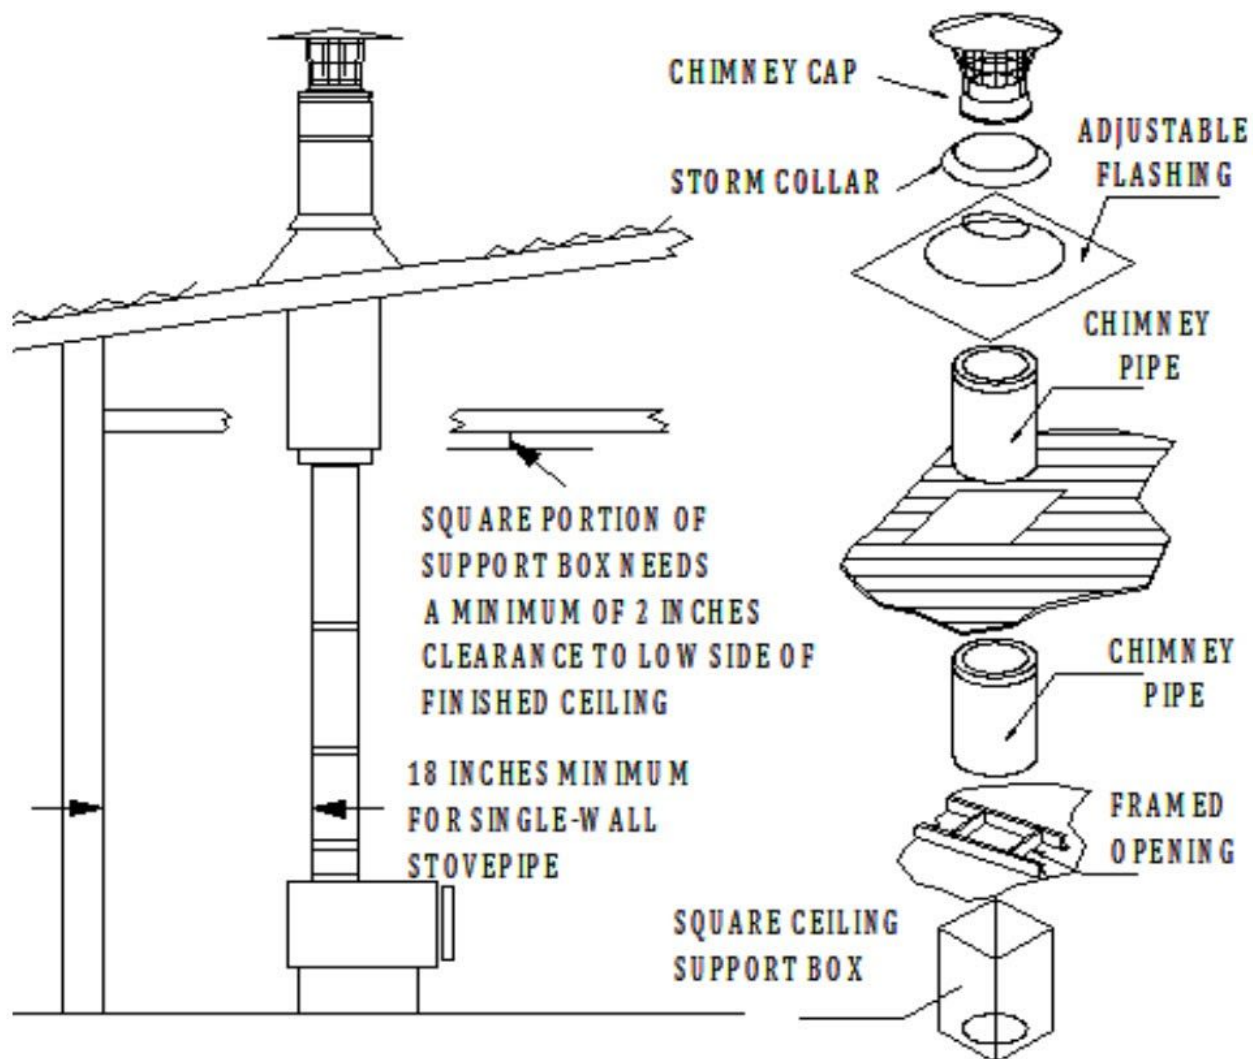

Fig 16
2. Cut Openings: Cut a roof opening in your desired location, just as in a Ceiling Supported Installation (Steps 1 through 5, page 5-9). If a separate ceiling and roof exists, as shown in Figure 16 (Low Attic), first cut and frame a ceiling opening as described in Ceiling Supported Installations (Step 2, page 6). Refer